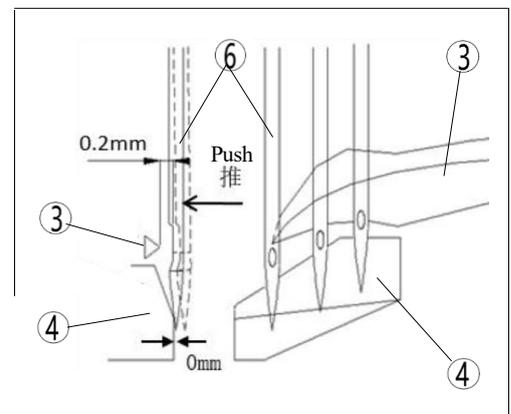

Figure 7-29
(3) When the hook tip moves to the center of the left needle⑥, gently push the left needle⑥ to touch the rear thimble plate④, setting the gap between the back edge of the left needle's groove and the tip of the hook③ to 0.2mm. (Figure 7-29)